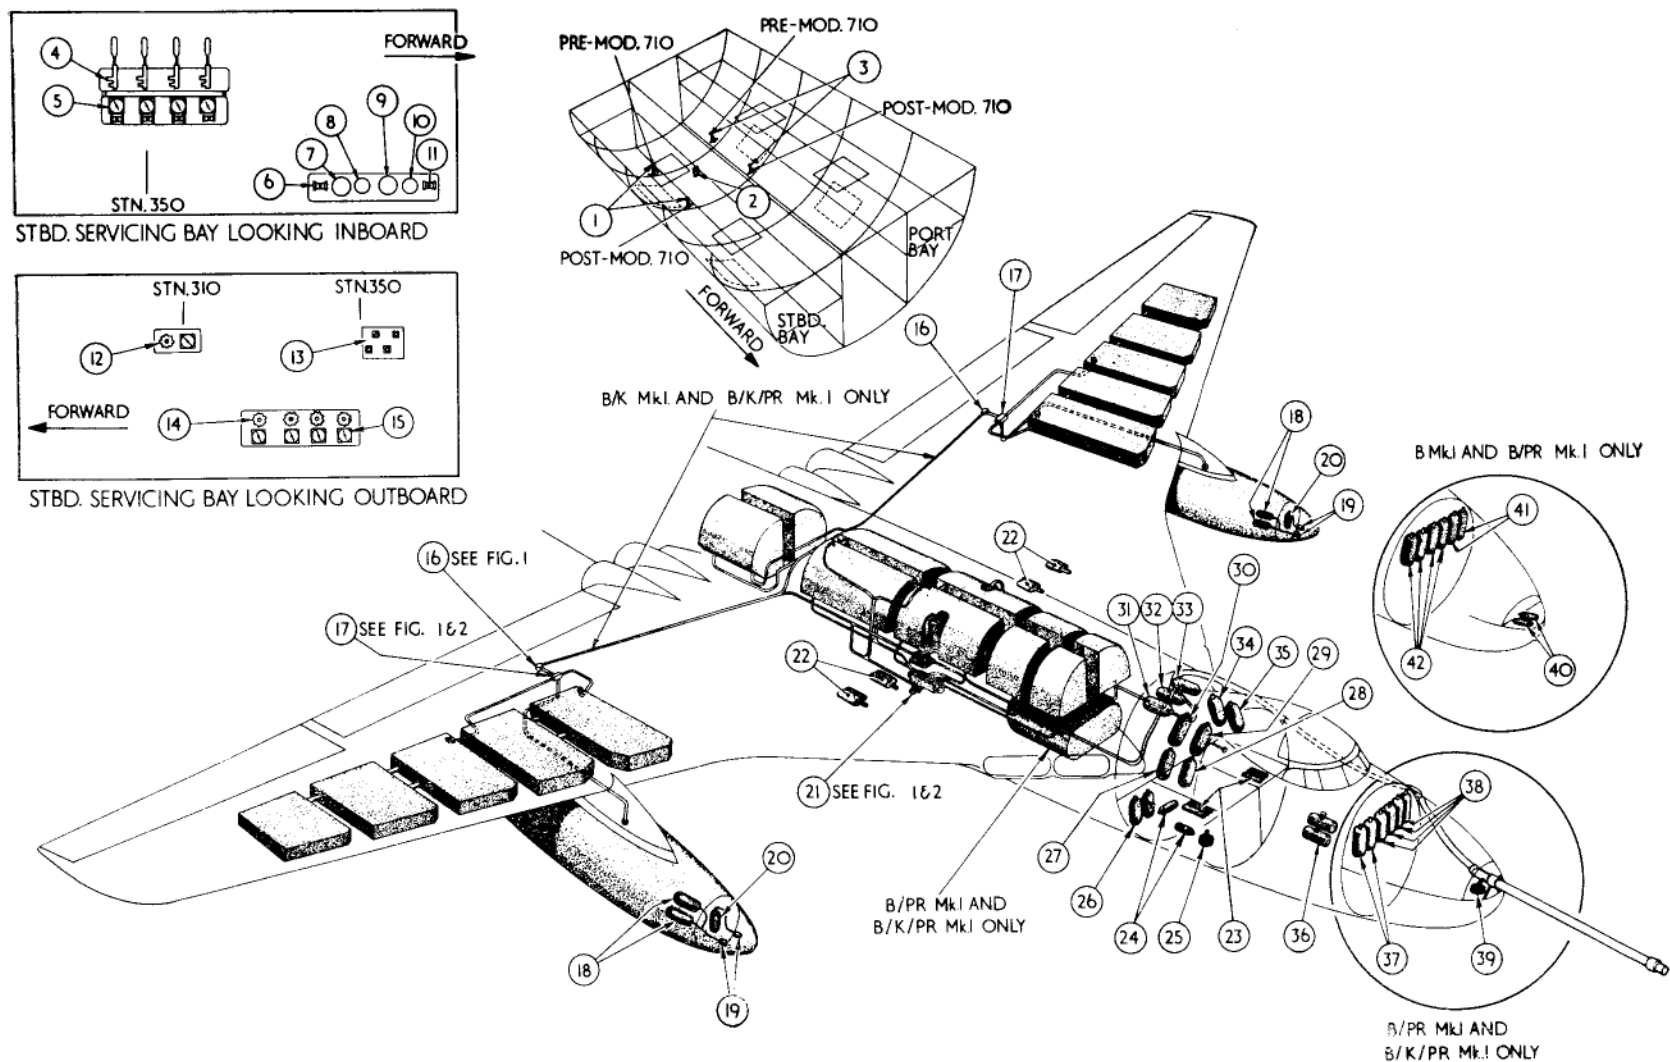

Fig. 3. Replenishing diagram
Key to Fig. 3 REPLENISHING DIAGRAM
15. The charging point for the nitrogen system in the wings and fuselage is accessible through the rear access panel of the starboard servicing bay; the underwing tank system is charged from a point in the tank nose compartment (*fig. 3*). Before commencing to charge the fuselage and wing systems ensure that the master cocks are closed and the test unions are blanked off. It is imperative that nitrogen equipment is not contaminated with oil and grease. The cylinders should be charged to 1,900 lb/in² which will ensure a cylinder pressure of 1,800 lb/in² when the nitrogen has cooled down.
17. The hydraulic tank is located in brackets on the starboard servicing bay outer wall (*fig. 3*) and is filled under pressure through the charging point on the servicing panel